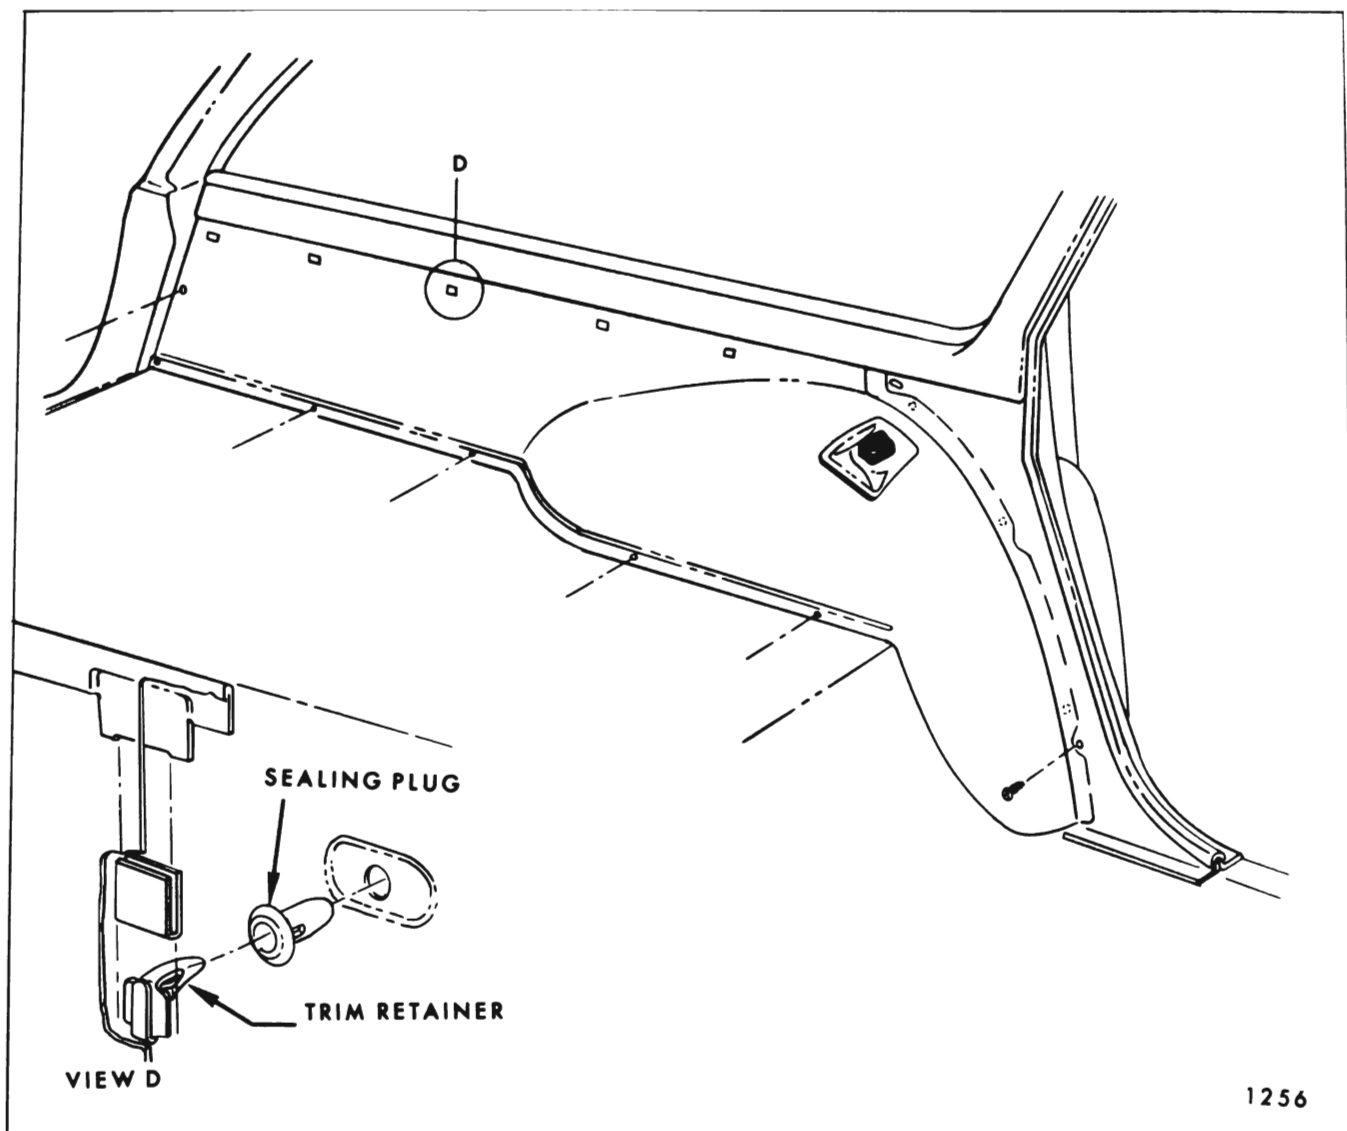

Fig. 14-38—Rear Quarter Trim Panel, Left Side - Pontiac 23335 Style
2. Remove all screws at front, rear and bottom of rear trim panel (see Fig. 14-38).
3. Working from front to rear (with a flat bladed tool), disengage trim retaining clips from plastic sealing plugs and remove trim assembly from body (see View "D" in Fig. 14-38).